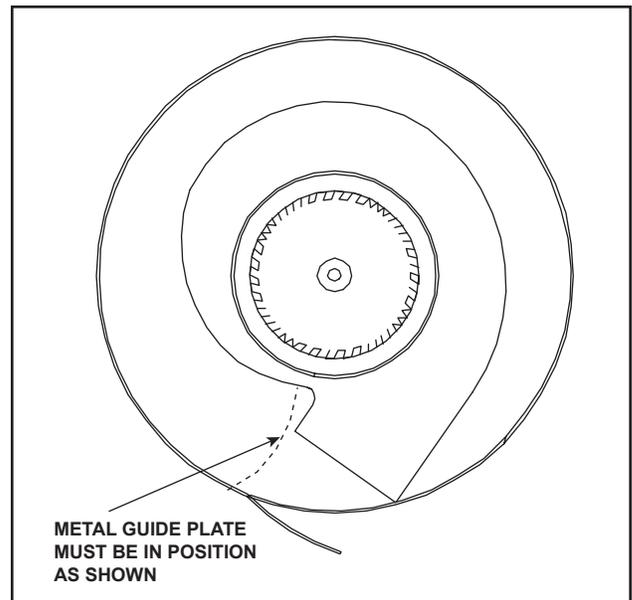

Figure 13.
- Bend the metal guide plate at the exhaust port hole out and through the hole on the 10-1/2 in. diameter collar. See Figure 13.